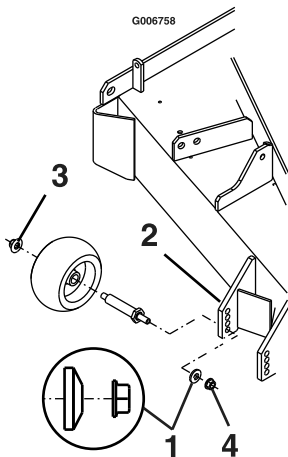

Figure 9
- Torque the 3/8–16 whizlock nut to 30-35 ft-lb (41-47 N-m) (Figure 9).
- If the 3/8 nyloc nut has been removed, reinstall and torque to 30–35 ft-lb (41-47 N-m) (Figure 9).